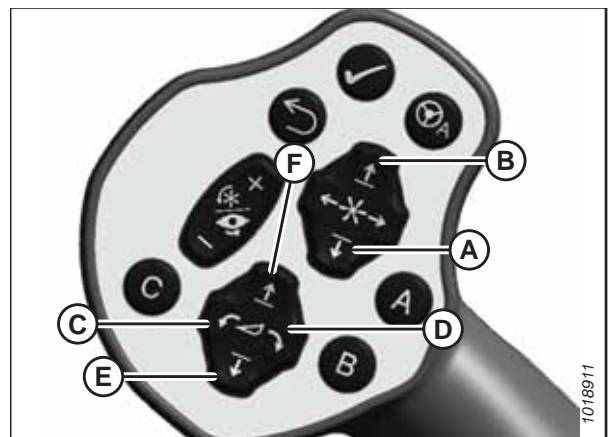

Figure 5.148: GSL
- Lower center-link (A) onto the header with the REEL DOWN switch on GSL until it locks into position. When this happens, hook release (C) will be in the down position. Refer to Figure 5.148, page 136 for an illustration of the GSL controls.
- Ensure that the center-link is locked onto the header by pressing the REEL UP switch on the GSL. Refer to Figure 5.148, page 136 for an illustration of the GSL controls.